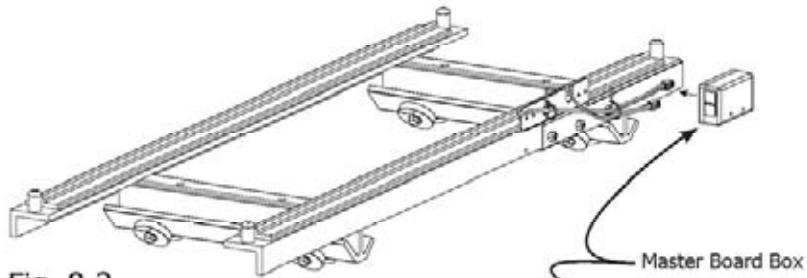

Fig. 8-3
**8-3:** Position the Master Board Box so that the two ports are facing the front of the carriage. Peel the tape from the back of the Master Board Box and attach the box to the side of the Carriage Assembly. (Fig. 8-3)